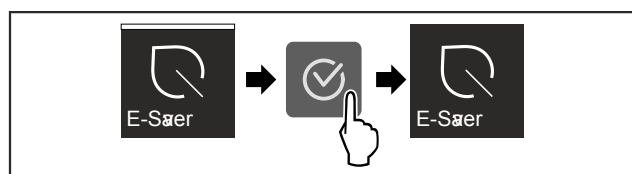

Fig. 16
- ▶ Complete the steps (see Fig. 16) .